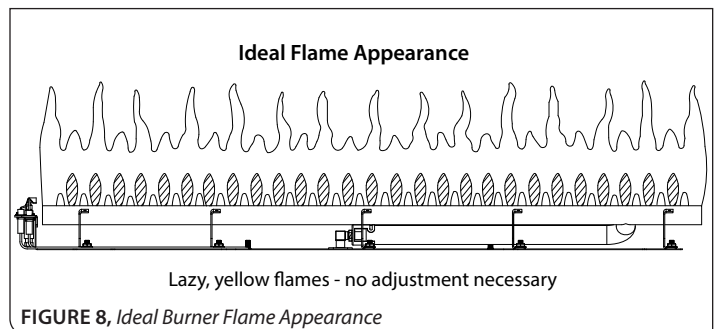

FIGURE 8, Ideal Burner Flame Appearance
- Step 1: Light the pilot. Visually check the pilot flame to verify flame envelops the top of the flame sensor and extends far enough onto the burner for proper ignition. See **FIGURE 8**.